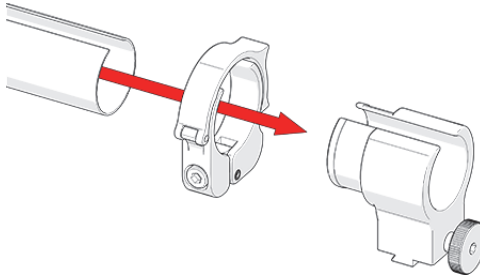

Figure 3-56 Slide tube around mount
2. Slide the clamp around the tube first, and then slide the tube around the outside of the zipper tube dovetail mount (see Figure 3-56 on page 71).